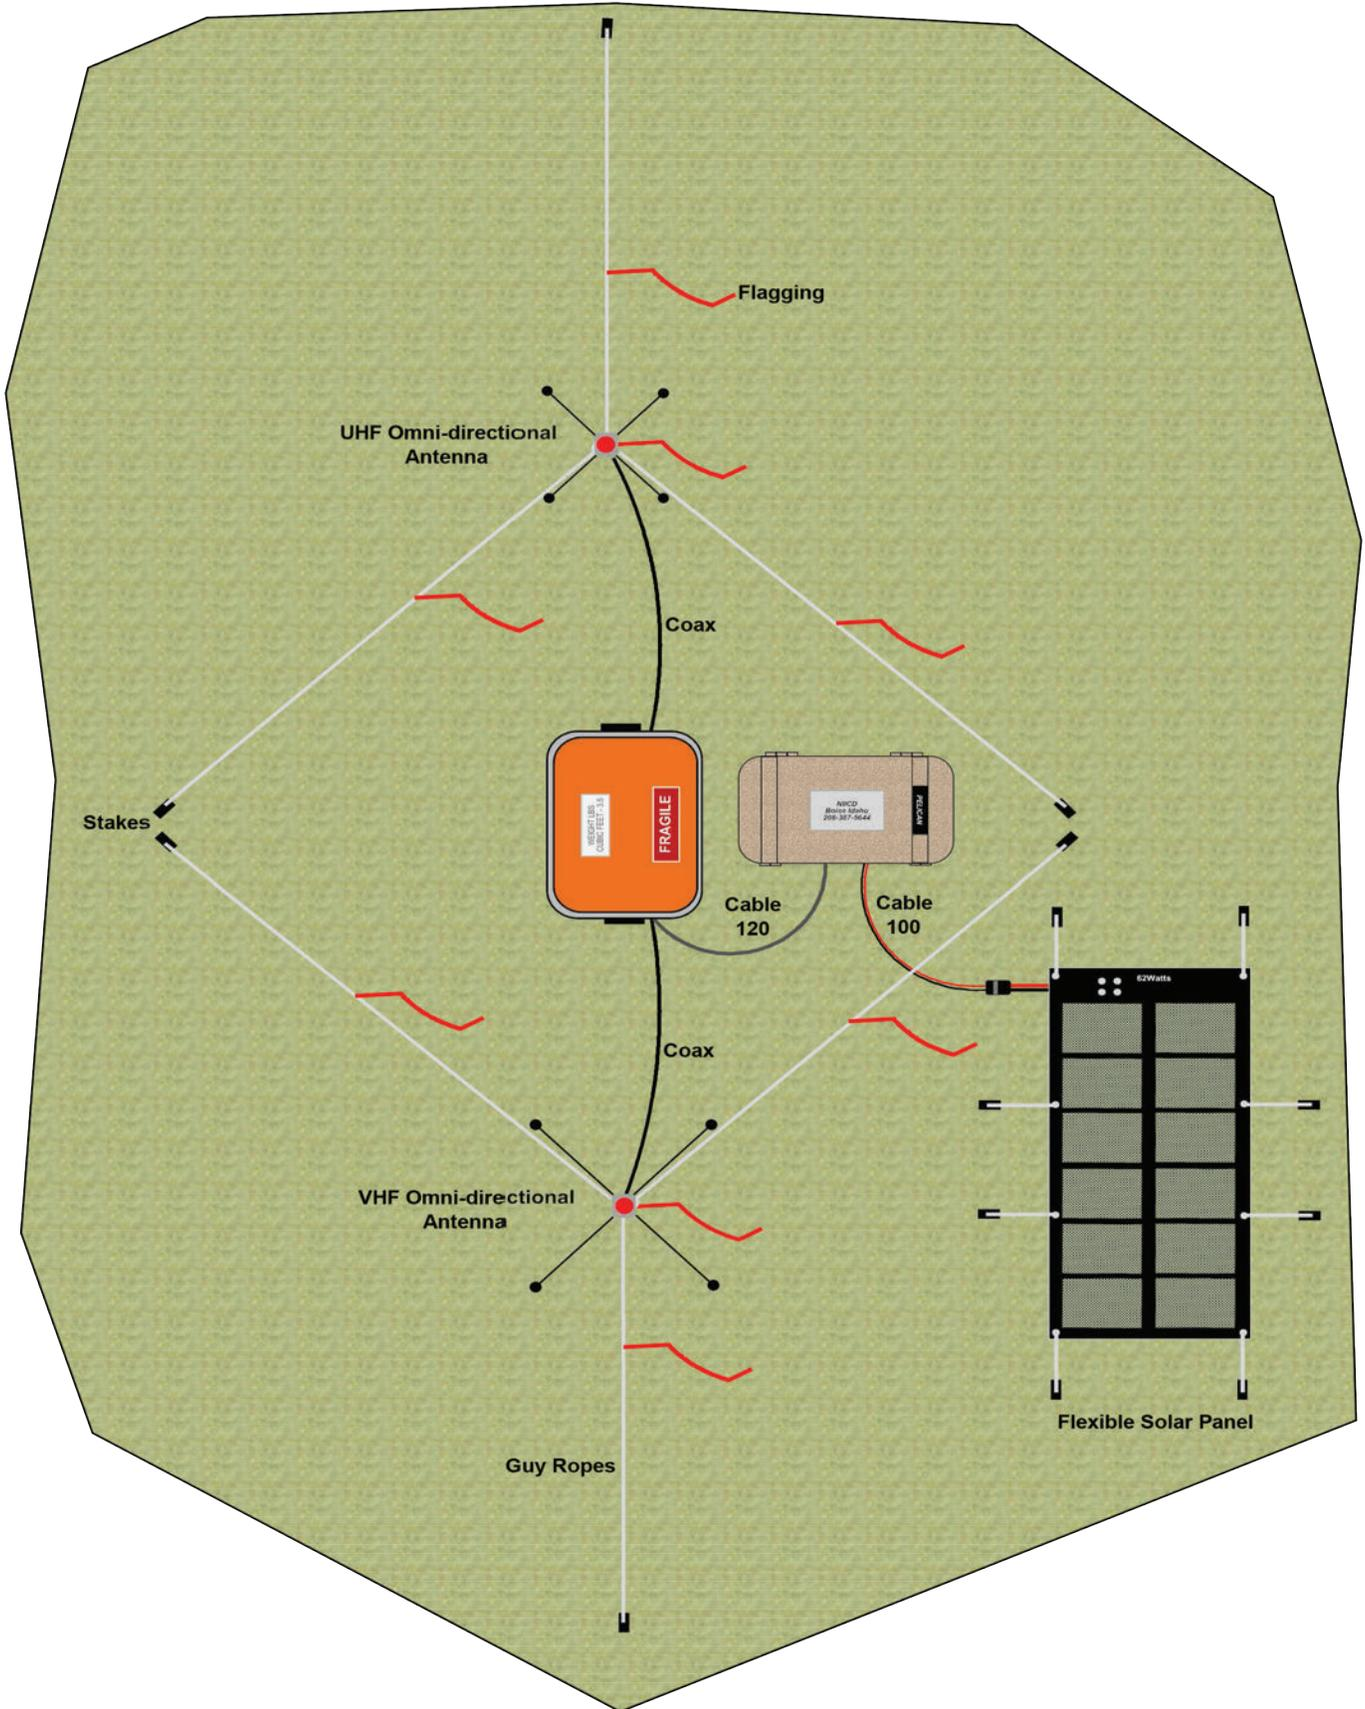

Figure 1: Solar Panel Installation (Overhead View)
1. **Battery Supply** (See Figure 1)
The battery is configured with a **POLARIZED** interconnect plug. If it becomes necessary to replace batteries, follow the 15 volt battery configuration figure on the following page. (See Figure 1)